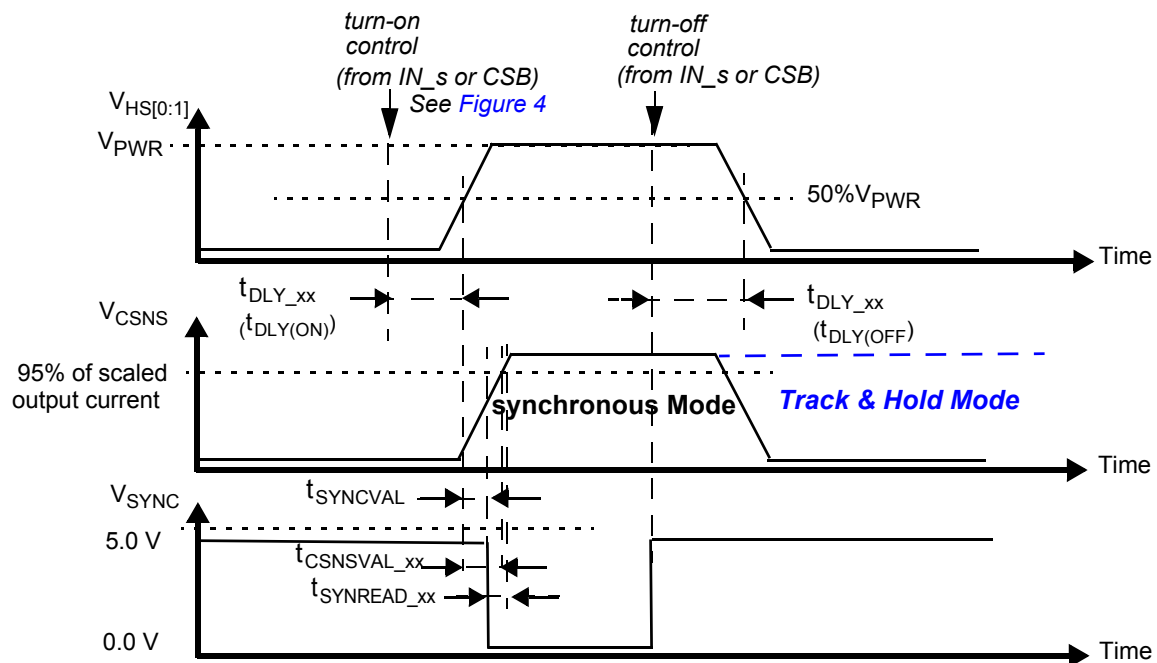

Figure 9. Synchronous & Track-and-Hold Current Sensing Modes: Associated Delay & Settling Times
34. Settling time (= $t_{\text{CSNSVAL_xx}}$), SYNC output signal delay (= $t_{\text{SYNCVAL_xx}}$) and Read-out delay (= $t_{\text{SYNREAD_xx}}$) are defined for a stepped load current ($100\text{ mA} < I(\text{LOAD}) < I_{\text{OCLX A FOR CSNS_RATIO_S}} = 1$, AND $300\text{ mA} < I(\text{LOAD}) < I_{\text{OCLX A_0 FOR CSNS_RATIO_S}} = 0$). (see Figure 9 and Output Current Monitoring \(CSNS\))
The CS pin allows independent current monitoring of channel 0 or channel 1 up to the steady-state overcurrent threshold. It can also be used to sense the device temperature. The different functions are selected by setting bits CSNS1_en and CSNS0_en to the appropriate value (Table 23). When the CSNS pin is sensed during switch-off in the (optional) track & hold mode (see Figure 9), it outputs the scaled value of the load current as it was just before turn-Off. When several devices share the same pull-down resistor, the CSNS pins of devices, the current of which is not monitored, must be tri-stated. This is accomplished by setting CSNS0_en = 0 and CSNS1_en = 0 in their GCR register (Table 12). Settling time ($t_{CSNSVAL_XX}$) is defined as the time between the instant at the middle of the output voltage's rising edge ($HS[0:1] = 50\%$ of V_{PWR}), and the instant at which the voltage on the CSNS pin has settled to $\pm 5.0\%$ of its final value. Anytime an overcurrent window is active, the CSNS pin is disabled (see Overcurrent Detection on Resistive and Inductive Loads). The current and temperature sensing functions are unavailable in Fail-safe mode and in Normal mode when operating without the V_{DD} supply voltage. In order to generate a voltage output, this pin requires a pull-down resistor ($R(CSNS)=1.0\text{ k}\Omega$ typ. and $470 < R(CSNS) < 10\text{ k}$). When the current sense resistor connected to the CSNS pin is disconnected, the CSNS voltage is clamped to $V_{CL(CSNS)}$. The CSNS pin can source currents up to about 5.6 mA.
To synchronize current sensing with an external process, the SYNC signal can be connected to a digital input of an external MCU. An open-drain pull-down on SYNC indicates that the current sense signal is accurate and ready to be read. The current sense signal on the CSNS pin has the specified accuracy $t_{SYNREAD_XX}$ seconds after the falling edge on the SYNC pin (Figure 9) and remains valid until a rising edge is generated. The rising edge that is generated by the SYNC pin at the turn-OFF instant (internal or external) may also be used to implement synchronization with the external MCU. Parameter $t_{SYNCVAL_XX}$ is defined as the time between the instant at the middle of the output voltage rising edge ($HS[0:1] = 50\%$ of $VPWR$), and the instant at which the voltage on the SYNC-pin drops below 0.4 V (V_{SOL}). The SYNC pins of different devices can be connected together to save micro-controller input channels. However, in this configuration, the CSNS of only one device should be active at a time. Otherwise, the MCU is not be able to determine the source of the SYNC signal. The SYNC pin requires an external pull-up resistor to V_{DD} .